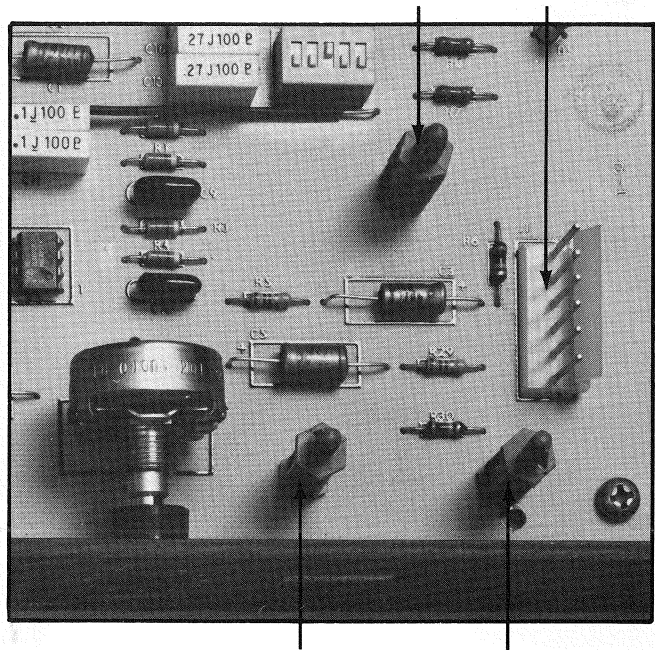

Figure 5 – Carefully Align Crossover Card with Three Mounting Pins & Male Chassis Connector
3. Align the three holes in each new crossover card with the corresponding mounting pins on the main printed circuit board (Figure 5). The components on the card should face toward the chassis, with the frequency designation label toward the front panel.